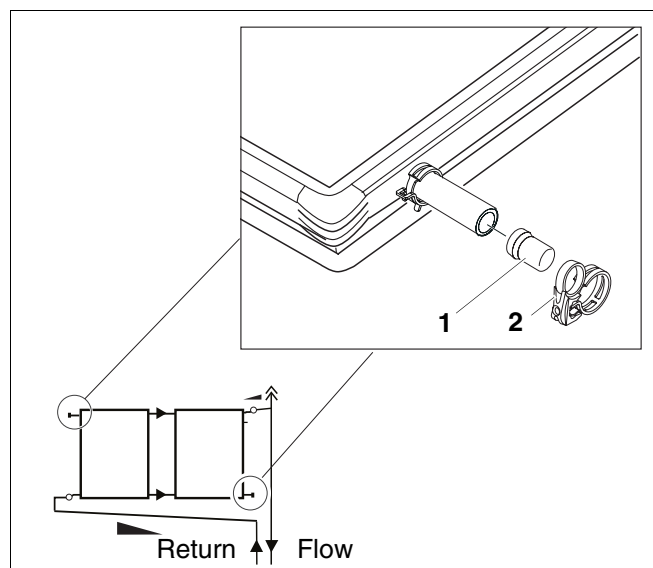

Fig. 44 Connection of the dummy plug
- To do this, insert the dummy plug (Fig. 44, **Item 1**) head first into the short solar hose.
- Push the hose clip (Fig. 44, **Item 2**) up to the head of the dummy plug (Fig. 44, **Item 1**).